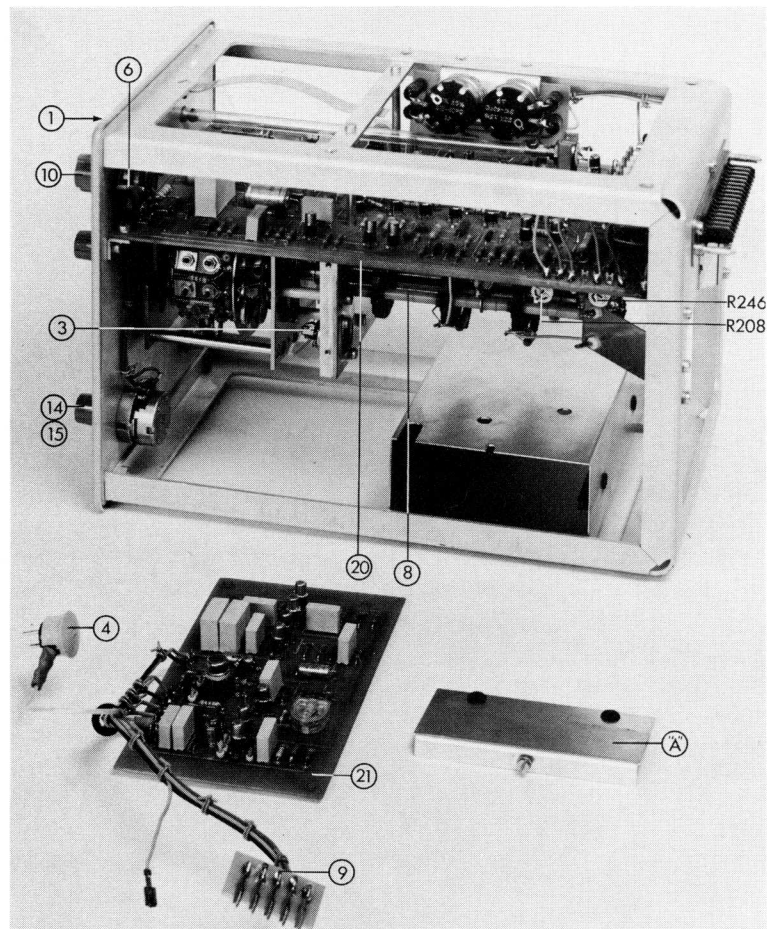
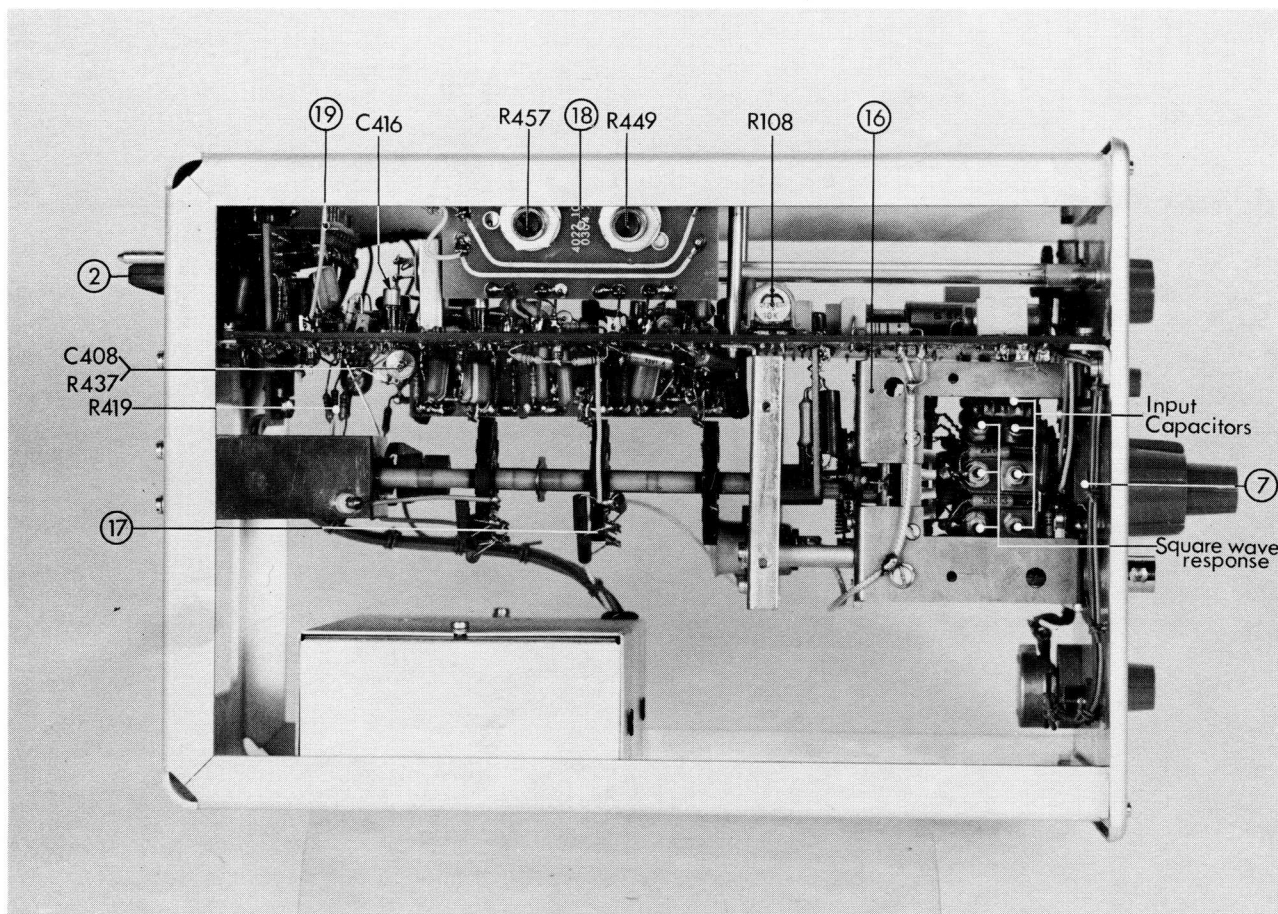

Fig. 15. Right hand side of amplifier
Fig. 16. Left hand side of amplifier
The chopper amplifier may be removed from its housing after the withdrawal of lid "A" (Fig. 15) a five-pole plug, a three-pole plug and a single-pole plug. If measurements are made while the chopper amplifier is out of its housing, adequate screening precautions should be taken to avoid hum.
#### R108 (Fig. 16)
#### R246 (Fig. 15) R449, R457 (Fig. 16)
**R208 (Fig. 15), C408, C416, R437 (Fig. 16), C128, C130, C158, R138, R139, R140, R141, R143, R144, R145, R158, R159, R173 & R174 (Fig.24)**
- Unsolder R419 (Fig. 16) at the side of the potentiometer R2 and apply a square wave voltage with a rise time of about 1 ns via a terminated 50  $\Omega$  cable. For a 4 cm deflection the amplitude must be about 200 mV.